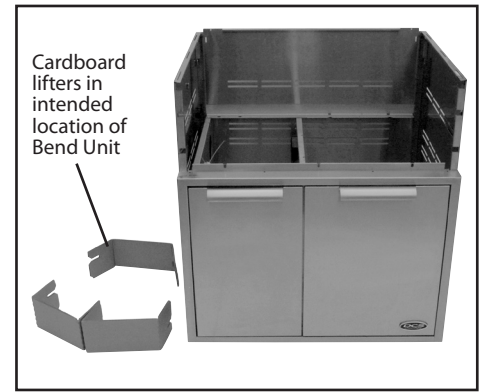

Fig. 18
2. Place the three cardboard lifters from the packaging on the ground next to the cart (or refrigerator) in the approximate position of the Bend Unit (Fig. 18).